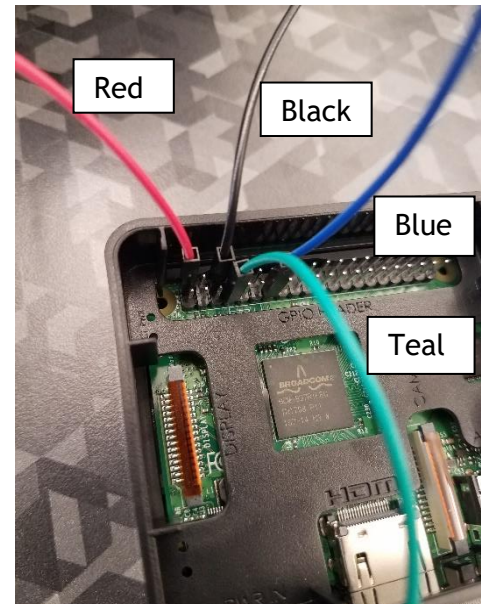

Figure 5: Raspberry Pi GPIO Connections
3. Now connect wires to the Raspberry Pi 3, as shown in Figure 5. Four female-to-male wires are needed. Figure 5 uses red, black, blue and teal, but you can use whichever four different colors you desire. There is a schematic of the Raspberry Pi pin layout ("pinout") in the Reference Section.
The red wire in Figure 5 is connected to the output power supply of the Raspberry Pi (Pin 2, labeled "5V" in the pinout Reference).